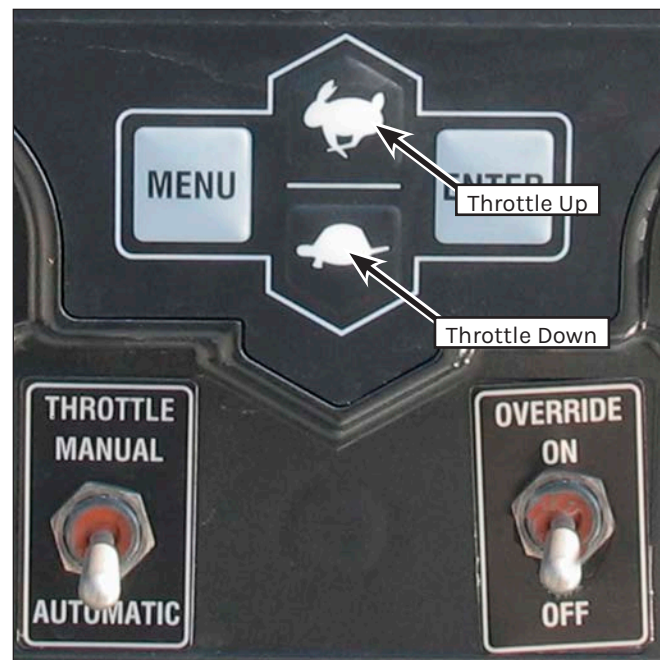

Figure 38: Throttle Controls.
1. With the engine running and transmission in gear, raise engine speed to 1400 rpm by pressing the throttle up button (Figure 38) on the control panel.